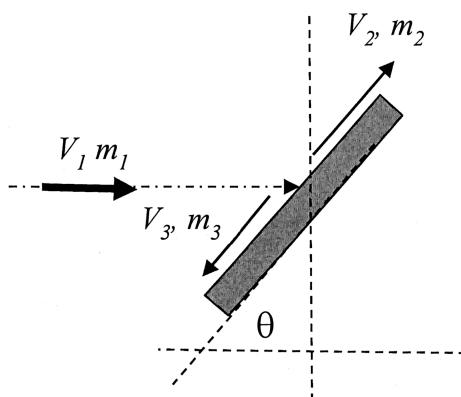

Figure 1
1. A horizontal water jet strikes a plate with mass flow rate m_1 and velocity V_1 as shown in Figure 1. Upon striking the plate, the jet is split into two streams, mass flow rate m_2 flowing upwards and m_3 flowing downwards, with velocity V_2 and V_3 respectively. The exit diameter of the jet nozzle is 30 mm and its corresponding velocity is 8 m/s